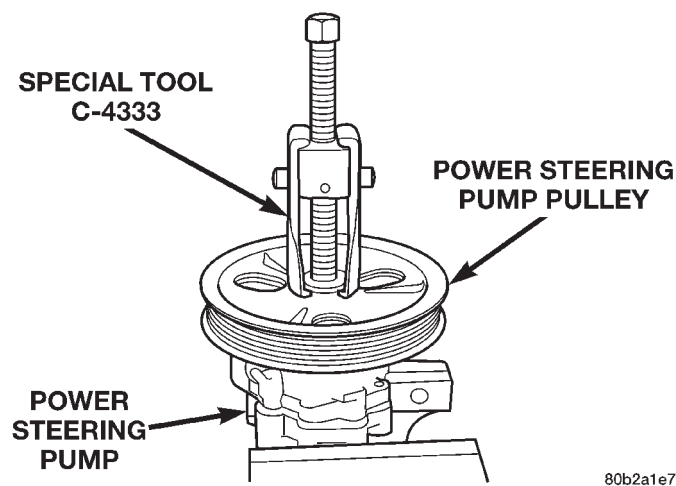

Fig. 17 Power Steering Pump Pulley Removal
(1) Mount the power steering pump in a vise using the mounting bosses for the power steering pump (Fig. 17).
(2) Remove the power steering pump pulley from the power steering pump shaft using Puller, Special Tool C-4333 (Fig. 17).